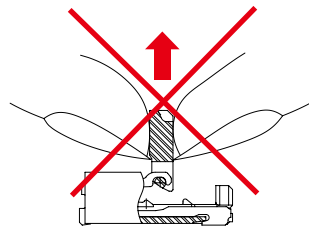

Fig. 2
- ③ The actuator will rotate 125°. Do not apply force to rotate further.
- ④ When opening or closing the actuator, do so at the center section.
- ⑤ Do not grasp or lift the actuator (Fig. 2) nor insert the nail from the back of it (Fig. 3).